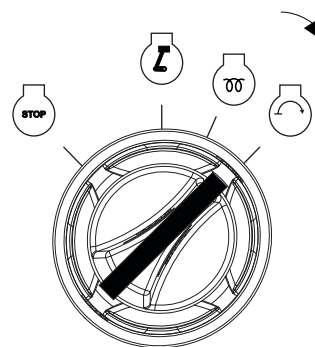

Figure 3-9. Crank Engine
7. See Figure 3-9. Turn ignition switch to START position and hold (10 seconds maximum) until engine cranks and starts.